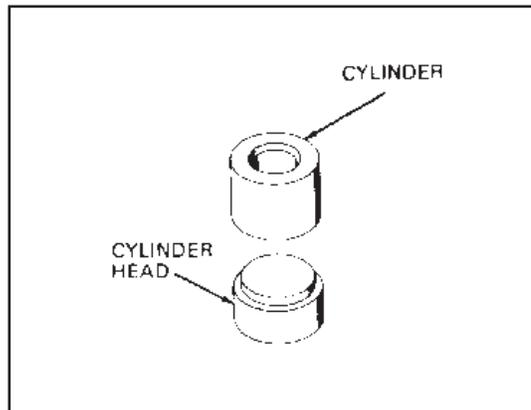

Figure 4.15
1. Assemble the pellet press cylinder and cylinder head in the *sample-forming position* for use as a mold as shown (see Figure 4.15).